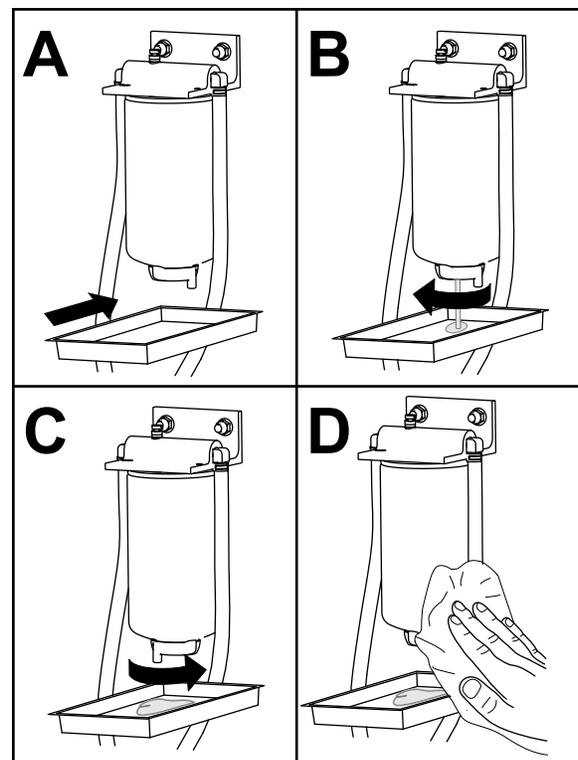

Figure 119
1. Drain water from the fuel/water separator as shown in Figure 119.